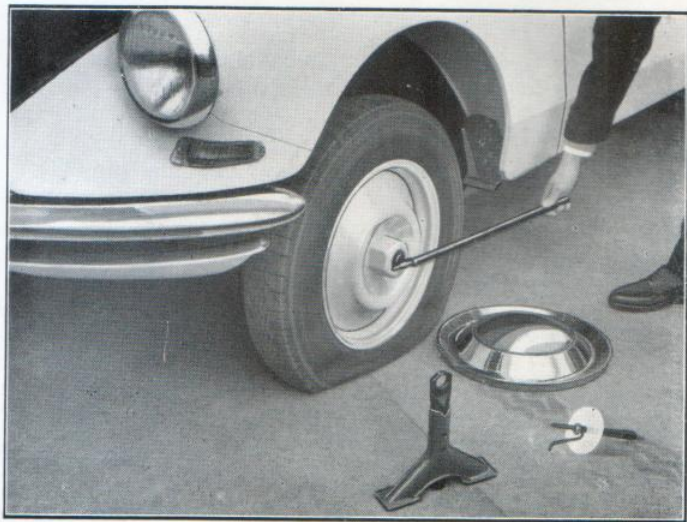

Figure 17
- **Firmly tighten** lug nut using the long lever in the position shown in figure 17.